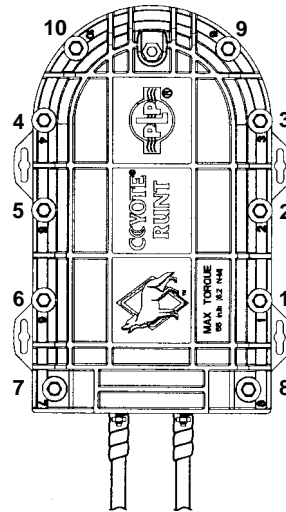

FIGURE 30 - TIGHTENING AND TORQUING SEQUENCE
13.03 Position the top shell half over the bottom shell half and **HAND-TIGHTEN** the bolts in the sequence shown on the shell. (Figure 30)